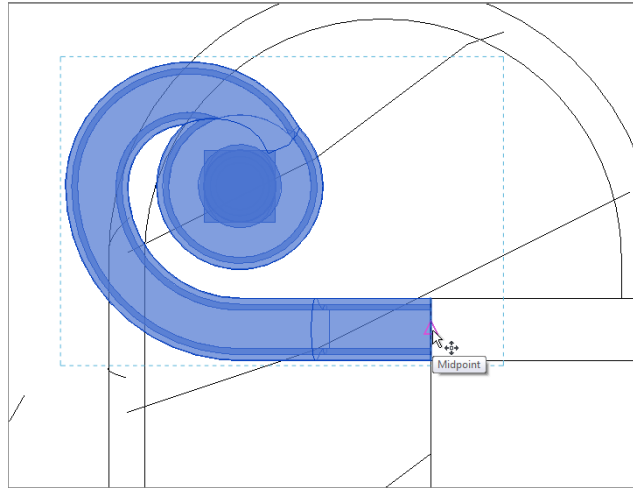

FIGURE 10.73: Moving the post to align with the stair railing
4. As you're placing the post, press the spacebar twice to flip it into the correct orientation, as shown in Figure 10.73.
5. Place it on the landing slightly away from the stair railing (see Figure 10.73).
9. Move the post from the midpoint of the post's end to the midpoint of the stair railing's end, as shown in Figure 10.73.